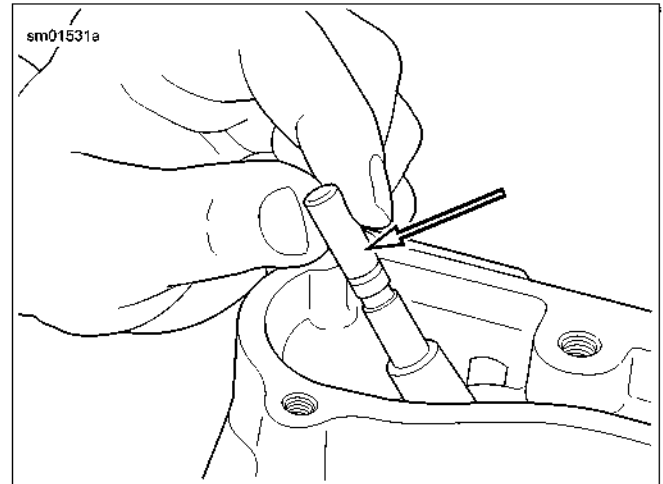

Figure 3-43. Valve Guide Seal Protector Sleeve
3. See Figure 3-43. Place a protective sleeve over the valve stem keeper groove. Coat the protective sleeve with SCREAMIN' EAGLE ASSEMBLY LUBE.